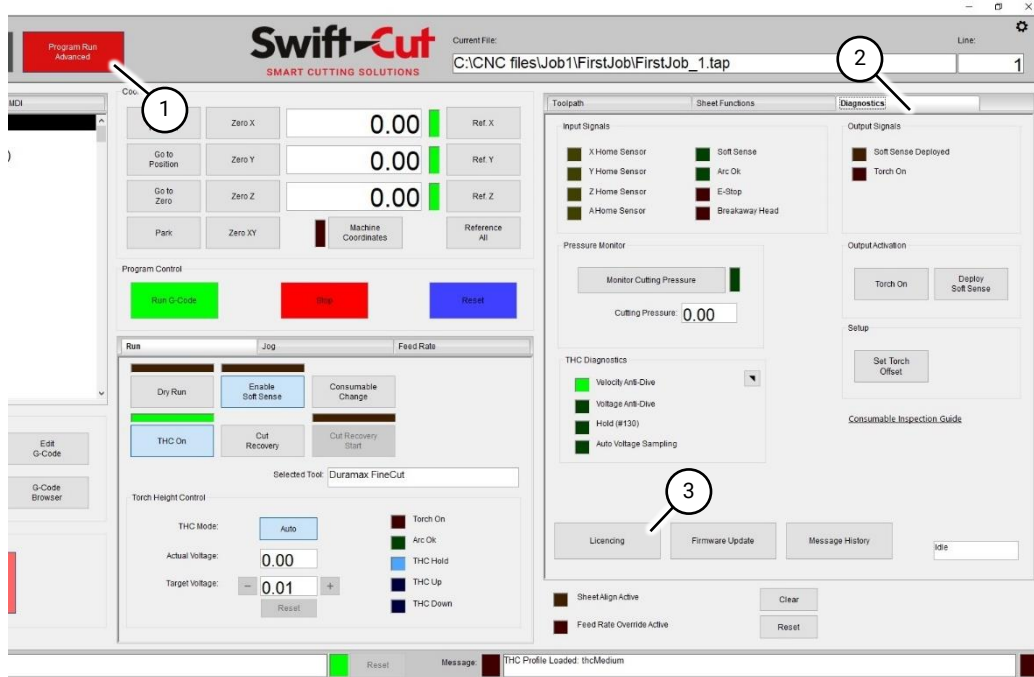

Fig 35 Licencing button
2. Navigate to the Program Run Advanced page (Fig 35 (1)). Select 'Diagnostics' (Fig 35 (2)) and then select 'Licencing' (Fig 35 (3)).